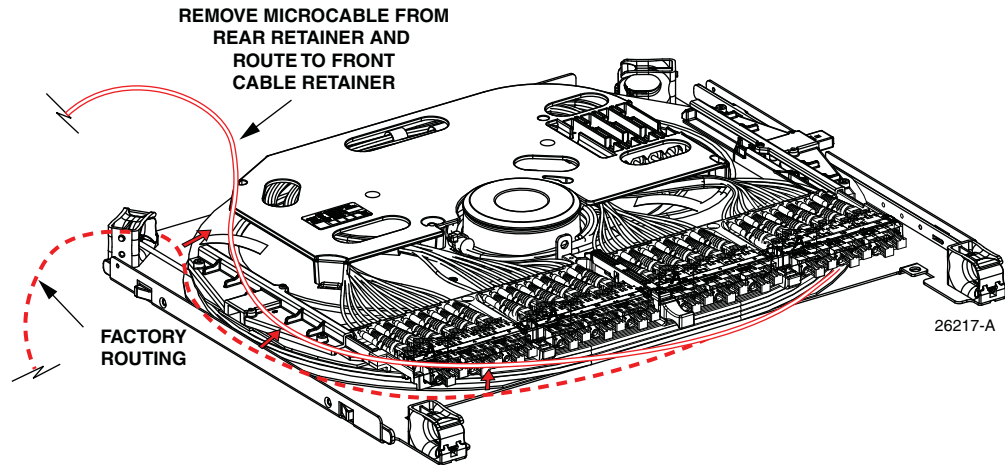

Figure 45. Routing Cable To Front of RapidReel Cable Spool Tray Before Inserting RapidReel Cable Spool Tray into Front Side of Panel Shell
5. If the RapidReel cable spool tray will be inserted into the panel shell from the front, remove the microcables from the rear cable retainer and route to the front of the spool as shown in Figure 45. If the RapidReel cable spool tray will be inserted into the panel shell from the rear, proceed to step 2.